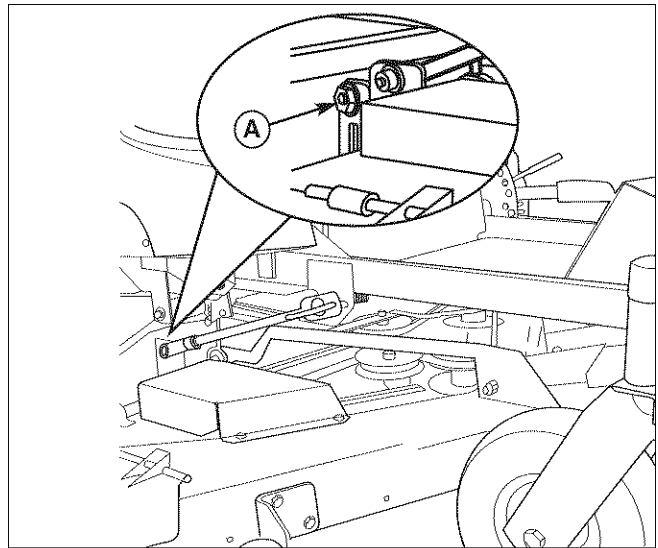

Figure 35. Roller Bar Leveling
5. Locate the roller bar leveling eccentric and locknuts (A, Figure 35). Loosen the locknut and turn the eccentric to raise or lower a side. When the correct level is achieved, hold the eccentric with a wrench and tighten the locknut. Repeat step 4 if necessary.